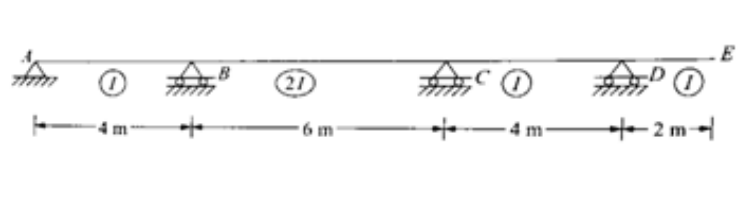

Figure 5
- (b) Analyze the continuous beam shown in Figure 5, if the support B sinks by 10mm by using three moment equations. Draw the SFD and BMD. Take  $E = 15 \times 10^6 \text{ kN/m}^2$  and  $I = 4 \times 10^9 \text{ mm}^4$ . [7M]